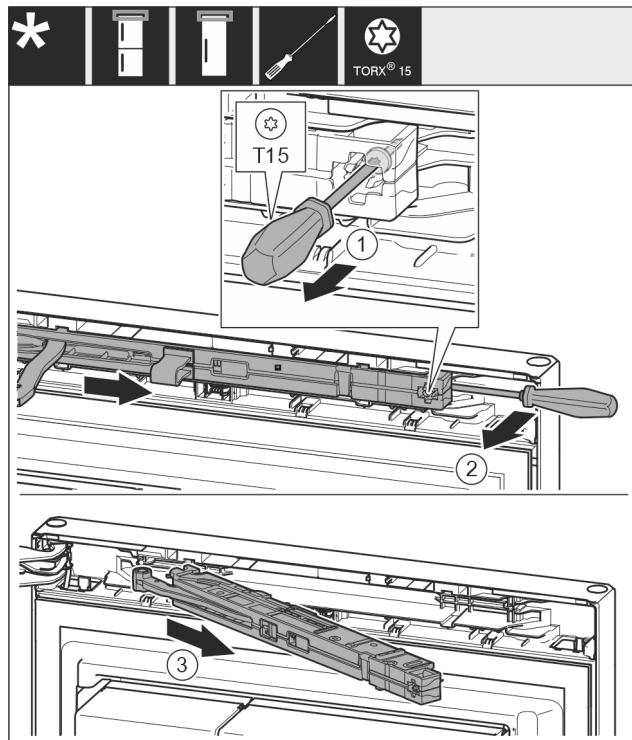

Fig. 10
- Loosen the soft stop unit screw with a T15 screwdriver approx. 14 mm. *Fig. 10 (1)*
- Insert a screwdriver behind the soft stop mechanism on the handle side and rotate the unit forwards. *Fig. 10 (2)*
- Pull out the soft stop unit. *Fig. 10 (3)*